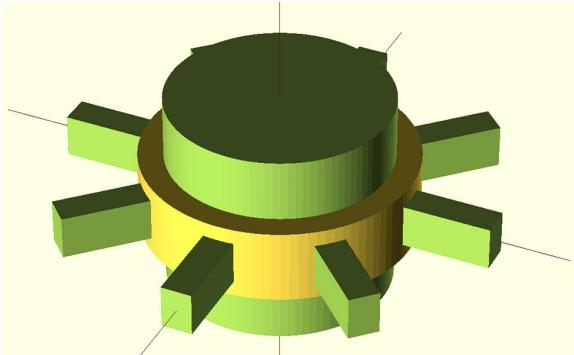

Figure C-7. Ring with cutouts
- ① You want to cut the square shapes out of the ring band, so you need to use difference to subtract the squares from the main band. Now this code becomes a double subtraction problem. If you turn on the thrown together view, you can see all of the geometries before you perform the subtraction or difference operation Figure C-7.
- ② This rotates your object around the origin of the coordinate system and, like the cube, takes a three-value array. The values are the x, y, z axes and are specified in that order. It is possible to rotate a shape in more than one axis at a time. In this example each of the cubes are being rotated around the z axis by increments of 45 degrees.
- ③ This line shows the creation and rotation of the square shape, which is actually a rectangular box. It helps to read this line from right to left. First you create the rectangle shape using the cube geometries, then you perform rotation operations on it.